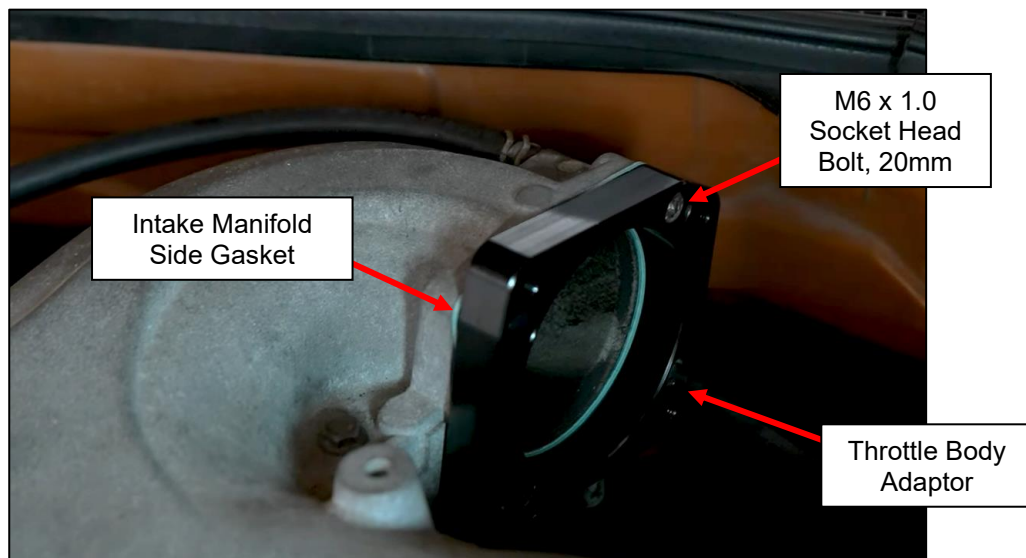

Figure 2
6. Locate the Throttle Body Adapter, Intake Manifold Side Gasket, and (4) four M6 x 1.0 Socket Head Bolts, 20mm. Install the Throttle Body Adapter with the Intake Manifold Side Gasket to the Intake Manifold with the M6 Socket Head Bolts. Torque the Bolts to **7 ft-lbs**. *Figure 2.*